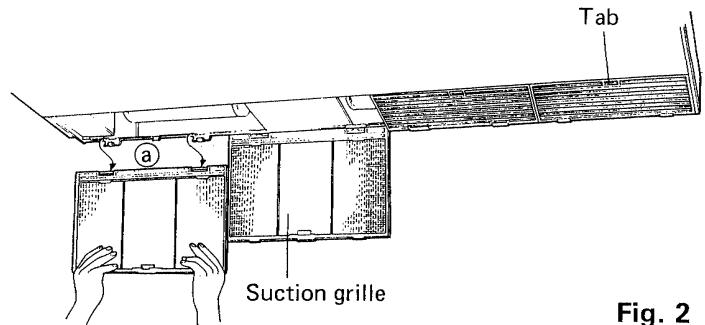

Fig. 2
- 2) Raise the suction grille lightly and shift it in the direction of the arrows (a) to remove it from the hooks. Fig. 2